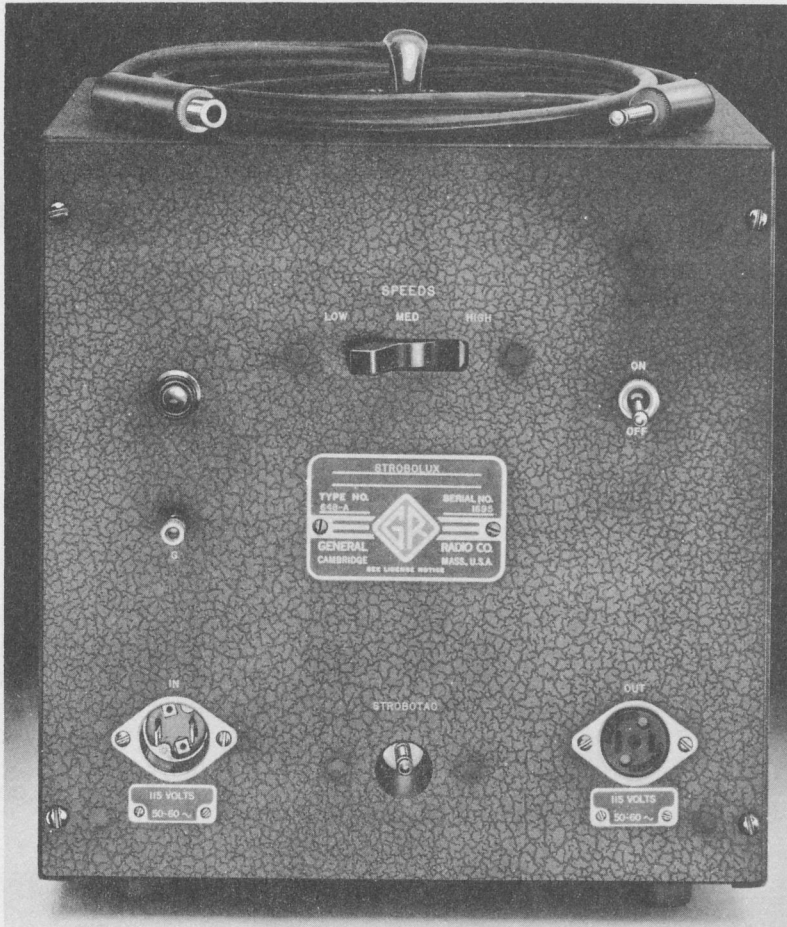

Figure 1. Type 648-A Strobolux.[®]
1.1 PURPOSE. The Type 648-A Strobolux® (Figure 1), an accessory to the Type 631 Strobotac®, provides, over an area of several feet, a light flash 100 times brighter than that obtained from the Strobotac.